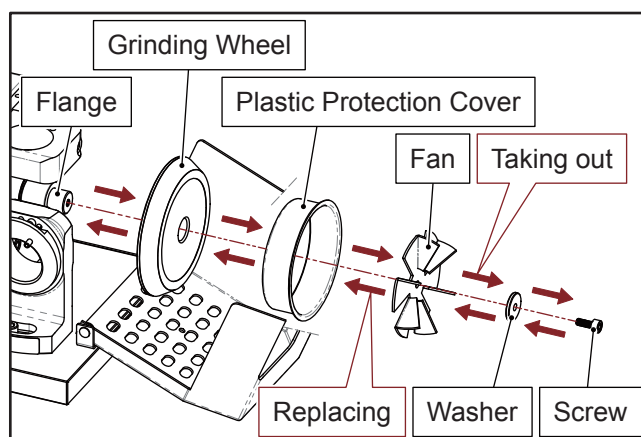

Fig. 11-3
- ④ Loosen the screw from the grinding wheel to take off the grinding wheel. (Fig. 11-3)
- ⑤ Use clean cloth to clean the flange and the contact surface of the grinding wheel.
- ⑥ Replace the new grinding wheel and fasten the screw. (Fig. 11-3)
- ⑦ Close the grinding wheel cover and secure with screw.